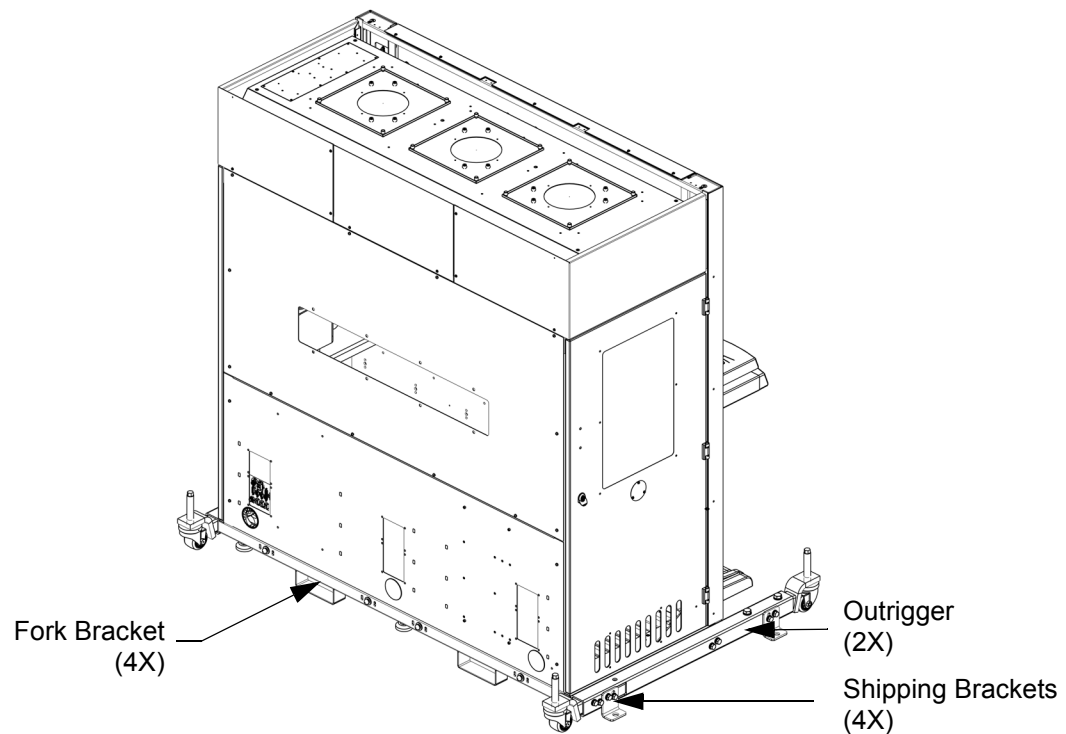

Figure 4-1: Shipping Tie-Downs (300mm System Shown)
The number of shipping crates and their contents will depend on the items purchased. Refer to the shipping documents for the exact contents. Figure 4-1, below, is provided for reference only.
1. The Acceptance Test (AT) is a permanent record of the Jet system as it was manufactured by Brooks Automation. It provides information about serial numbers, model numbers, and embedded software versions as well as critical data about load port designations, system assignments, station names, etc. Make copies of the Acceptance Test record and keep a copy close to the Jet system. If maintenance is required, data from the AT will be needed.
3. Cut open the bag the Jet system is shipped in and unbolt the four tie-down brackets from the base of the shipping container as indicated in Figure 4-1.
4. Using a fork lift with 6 inch wide forks (maximum), lift the Jet system from the back using the Fork Brackets (rear locations shown in Figure 4-1). Note that the system may slightly tip forward on the forks.